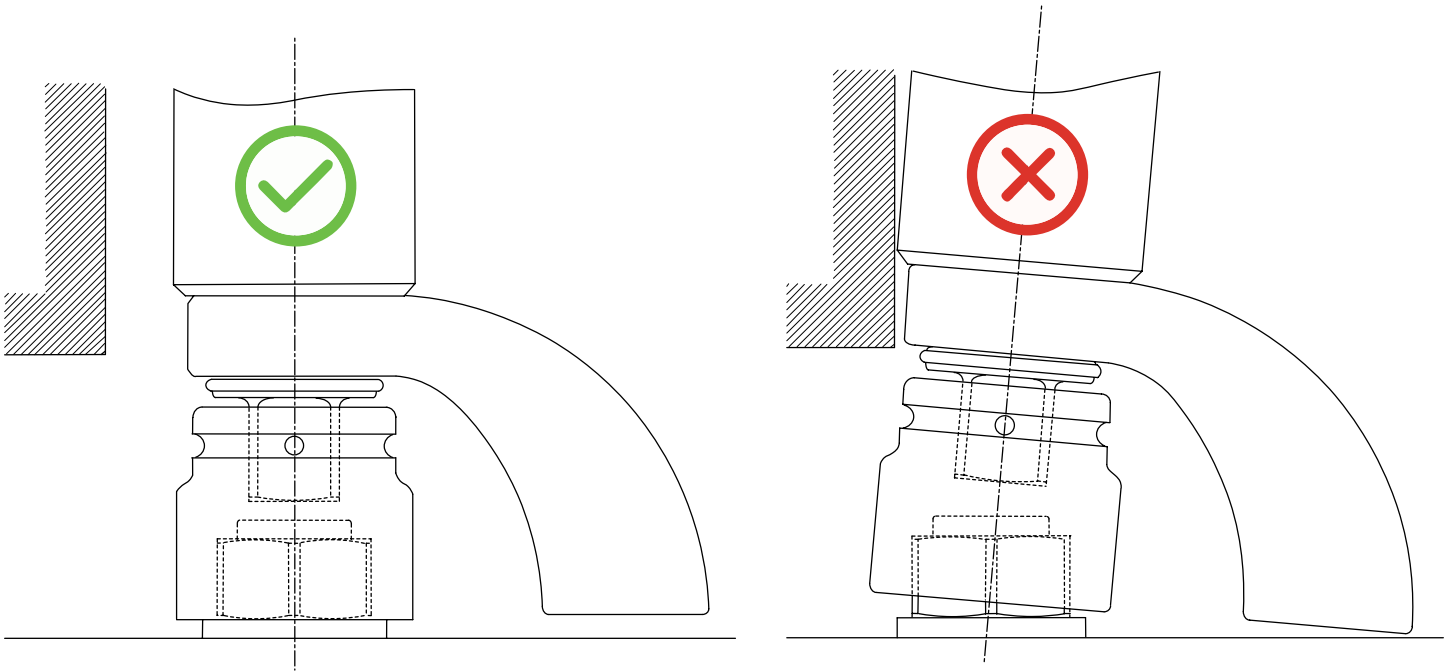

Fig. 2.4. Avoid Skewed Positioning of the Tool
For instance in case of confined space (see Fig. 2.4). Wrong positioning of the tool may lead to its damage or to detachment of the socket.
- **The tool must be aligned parallel to the central axis of the bolt connection (see Fig. 2.4)**
- Place the tool onto the nut / bolt head, ensuring the socket is fully engaged, and the tool is correctly aligned / positioned as indicated in Fig. 2.4.